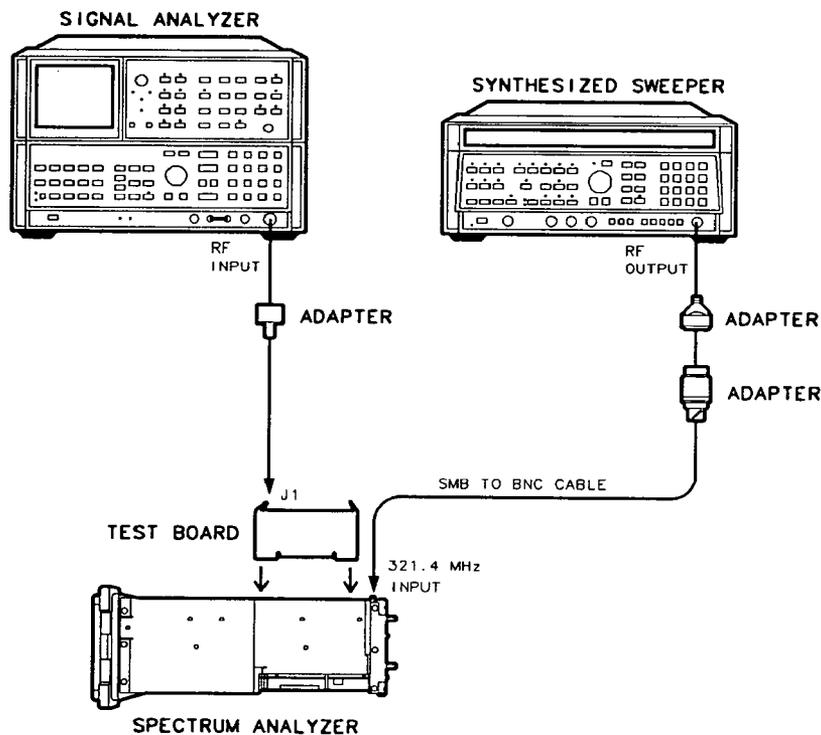

Figure 2-23. Second IF Bandpass Filter Adjustment Setup
7. Connect the synthesized sweeper output to A9J4. Refer to Figure 2-23.
10. Connect the HP 8566A/B RF INPUT to J1 of the IF test board. Refer to Figure 2-23.